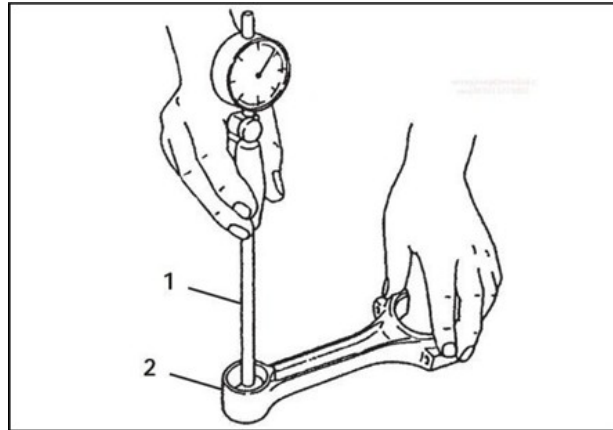

Figure 124.
1. Measure the piston pin bushing bore using a bore gauge (Figure 124, item 1). Replace the bushing if not within specifications. If the bushing has been removed, measure the inside diameter of the connecting rod small end (Figure 124, item 2). See Connecting Rod mechanical specifications.